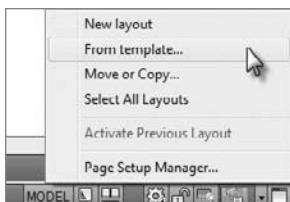

FIGURE 14.26 Selecting the From Template option in the Quick View Layouts context menu
2. Right-click on the Quick View Layouts button in the status bar and choose From Template (see Figure 14.26).